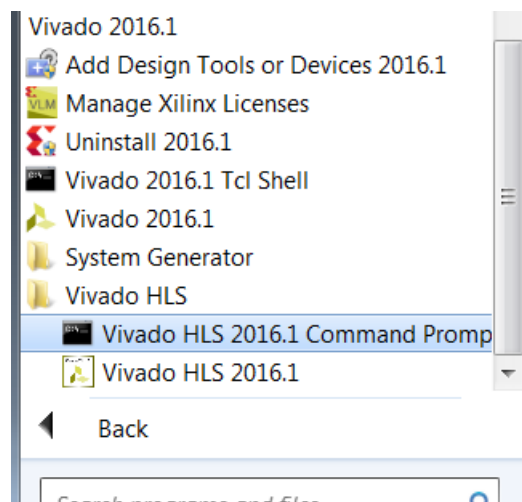

Figure 3-1: Vivado HLS Command Prompt
- On Windows use **Start > All Programs > Xilinx Design Tools > Vivado 2016.1 > Vivado HLS > Vivado HLS 2016.1 Command Prompt** (Figure 3-1).